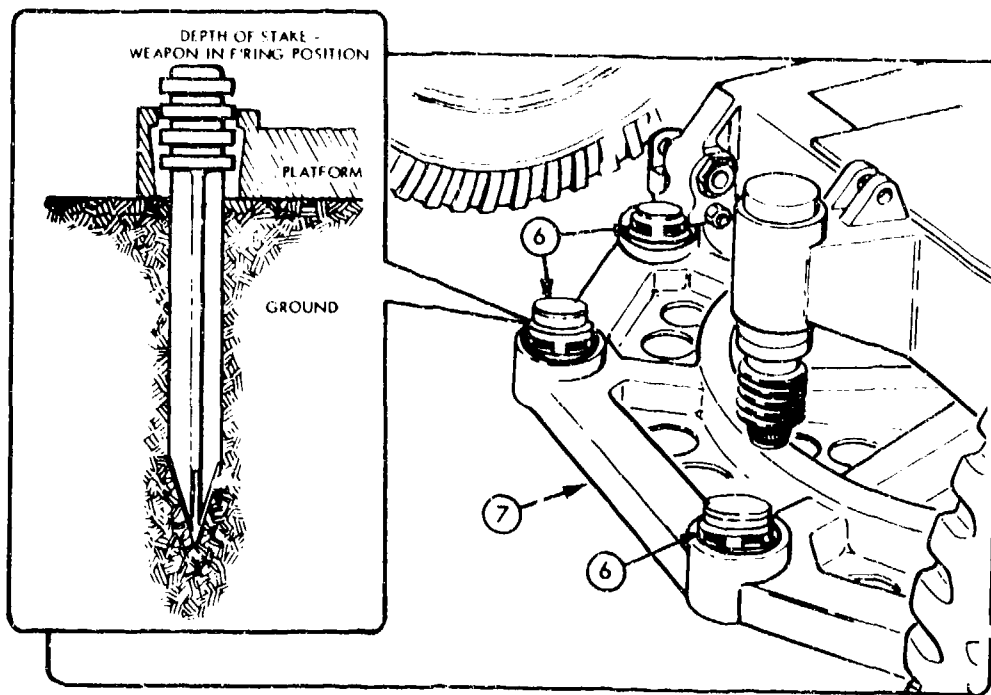

Figure 4-12. Firing stake emplacement.
e. The stakes should be driven to a depth at which the next to top lip is flush with the firing platform as shown in figure 4-12.